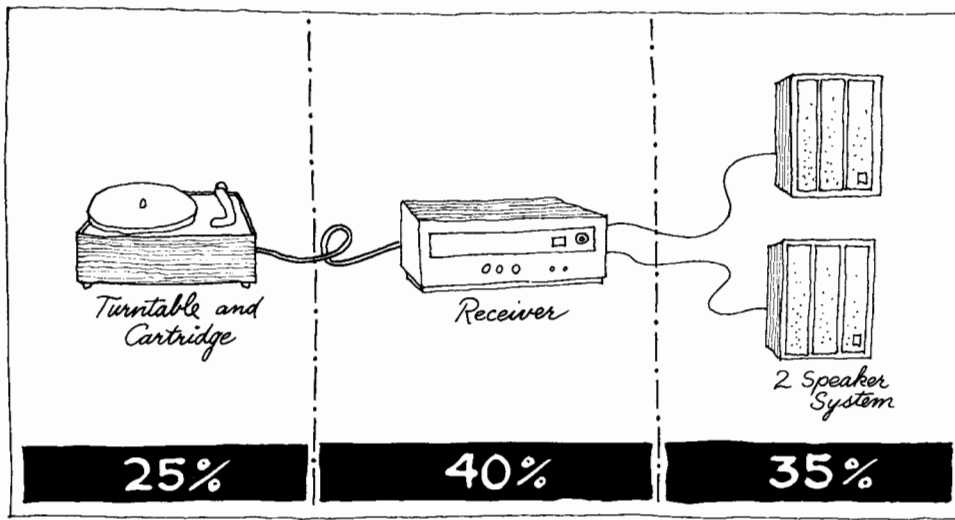

Fig. 1. Apportioning dollars to a stereo receiver/turntable/speaker system.
**Apportioning Hi-Fi Dollars.** By far the greatest number of high fidelity stereo component systems consist of an all-in-one receiver, a turntable system (either single-play or multiple-play) and a pair of loudspeaker systems. This basic layout is shown in Fig. 1. Below it is a typical cost breakdown in percentages of available dollars. As an example, if you have \$500 to spend on such a basic system, you might consider a turntable (including the phono cartridge, which is usually purchased separately) selling for approximately \$125, a \$200 receiver and two speakers for about \$87.50 each. There are, of course, no hard-and-